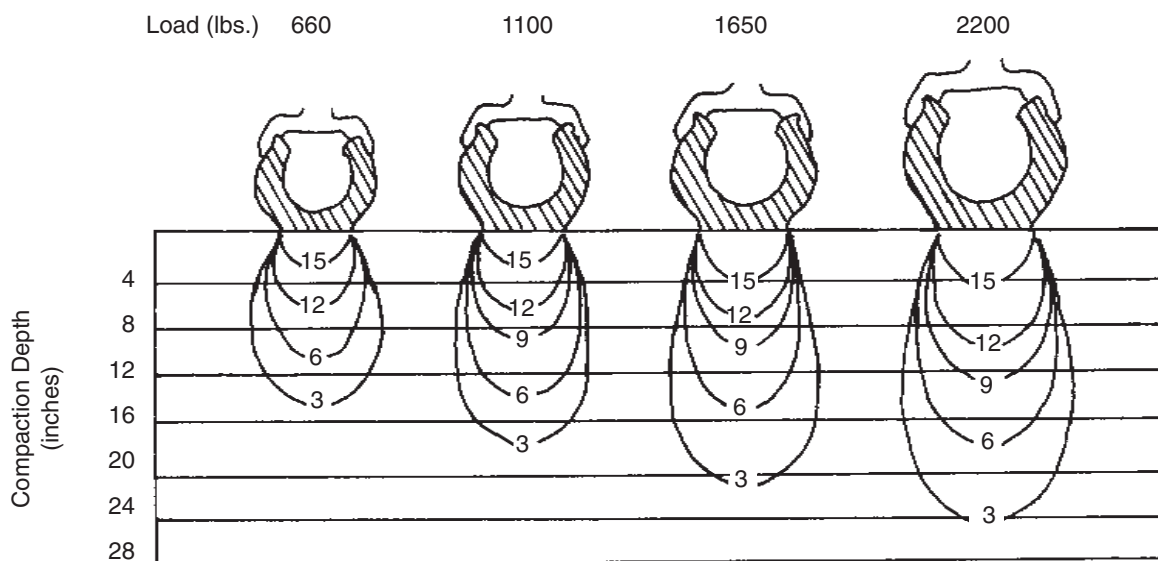

Figure 3. The effect of various tractor loads on soil compaction.
- **Substitute lighter equipment for heavier.** Often, this is not possible unless you are considering a total change in your farming operation. Minimum and no-till equipment usually pulls easier and requires less horsepower per foot of width. As a result, smaller tractors may be used. Figure 3 shows how varying tractor loads affect soil compaction.